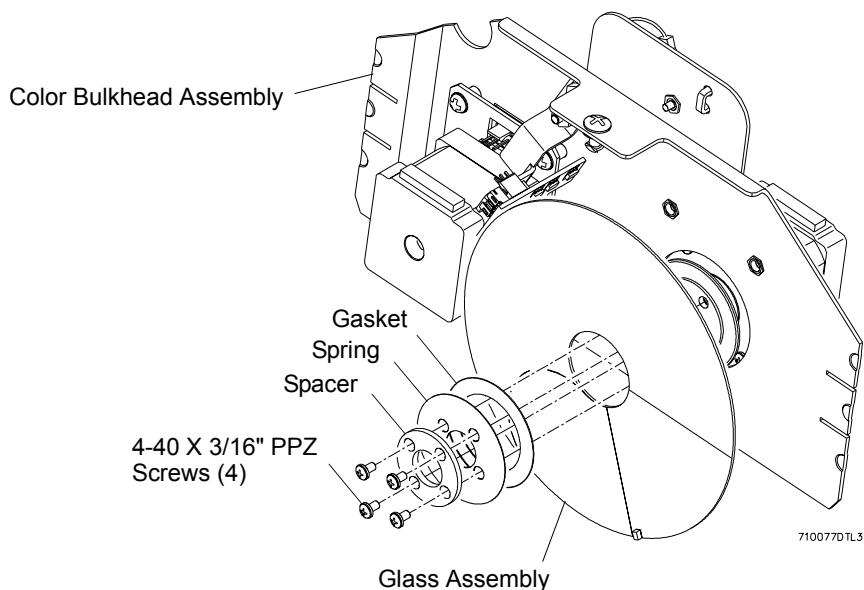

Figure 2-7: Magenta Color Wheel Glass Assembly Replacement
Step 3. At color bulkhead assembly, remove four 4-40 X 3/16" PPZ screws, spacer, gasket, and spring, and remove glass assembly from bulkhead (**Figure 2-7**).